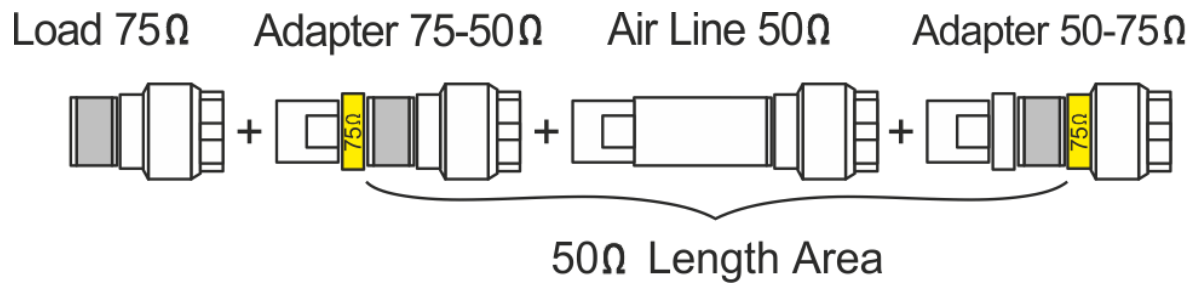

Figure 4 – Stepped line for verification of the Reflection Coefficient Magnitude and Phase Accuracy.
6.3.6.1 The reflection coefficient magnitude and phase accuracy test is performed by comparing the measured and actual values of reflection magnitude and phase of the stepped line, shown in Figure 4.